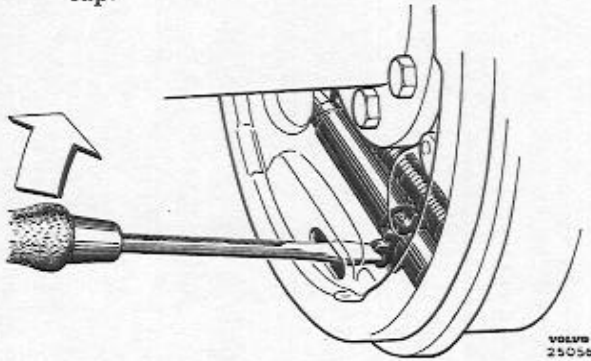

Fig. 38. Adjusting the wheel brake unit.
2. Remove the rubber seal, insert a screwdriver into the recess and apply the brake shoes by moving the screwdriver upwards as shown in Fig. 38. Turn the notched wheel of the adjusting screw until the brake drum is locked.